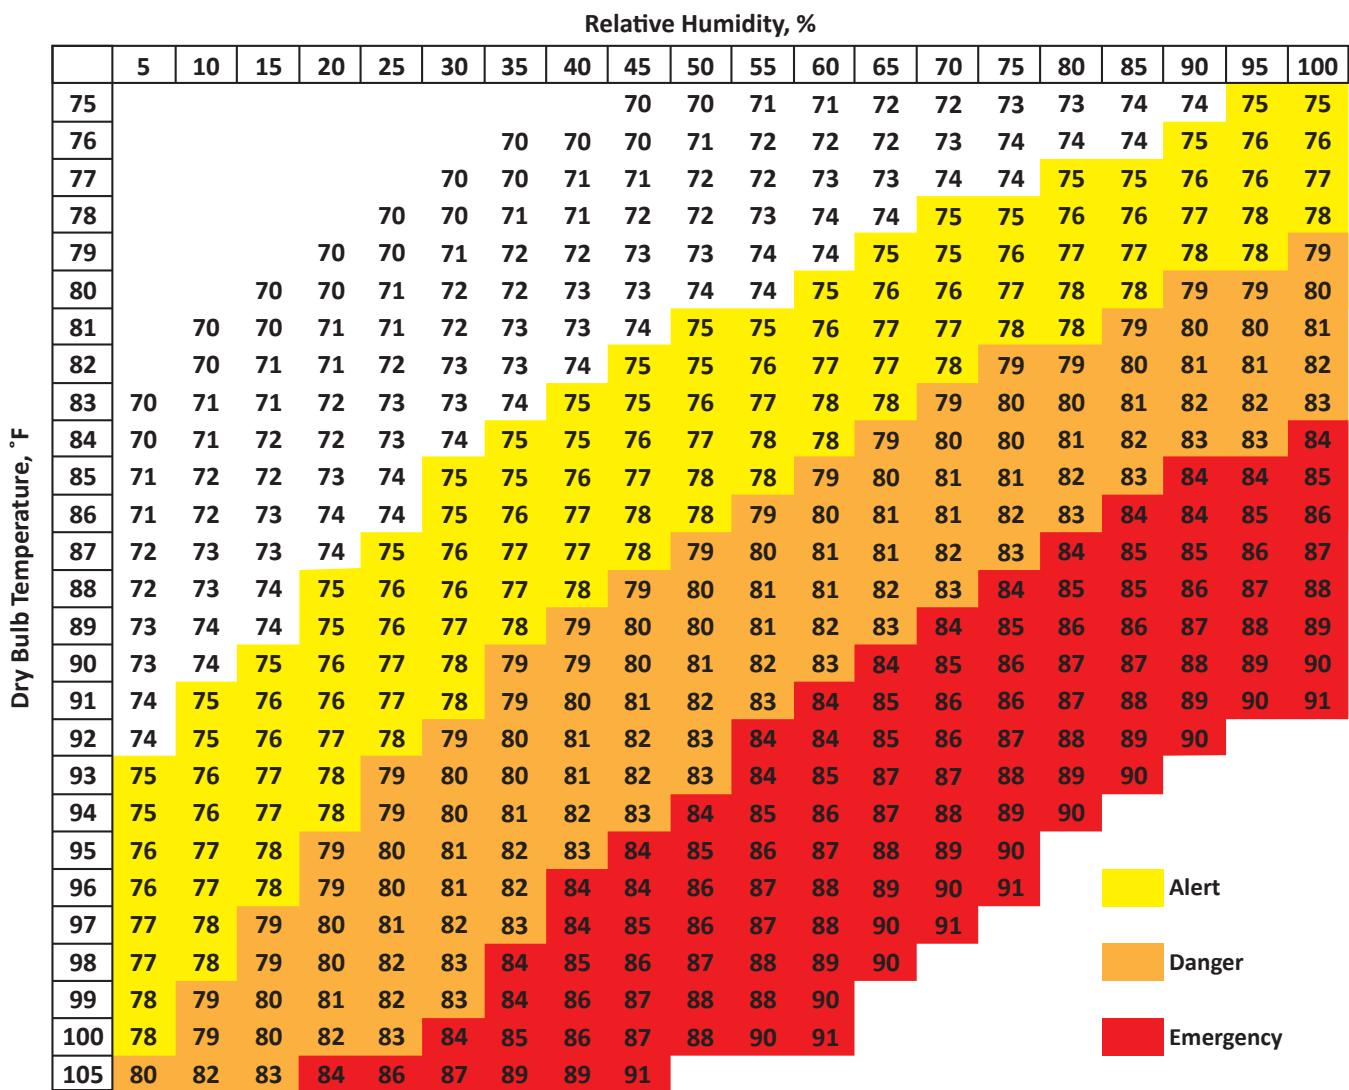

Figure 8.1: Livestock Heat Hazard Guide With Temperature Humidity Index (THI) Values
- Use the trailer sprinkler system or a garden hose to wet pigs and bedding before leaving the farm, if the livestock weather safety index is ≥ 77 (Figure 8.1).